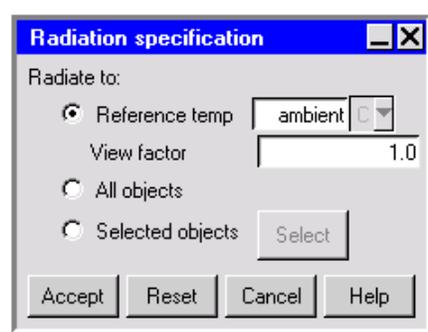

Figure 22.3.2: The Radiation specification Panel
- For the whole block, select the Radiation option in the Blocks panel. Click **Edit** to access the Radiation specification panel (Figure 22.3.2).
- For individual sides of the block, select the **Individual sides** option in the Blocks panel. Click **Edit** to open the Individual side specification panel. Select **Radiation properties** to access the radiation properties, which are the same as those shown in Figure 22.3.2.
- 2D source: Select the Radiation option in the Sources panel. Click Edit to access the Radiation specification panel (Figure 22.3.2).
- Person: Select the Radiation option in the Person panel. Click Edit to access the Radiation specification panel (Figure 22.3.2).
- Wall: Select the Inner surface radiation option in the Walls panel and click Edit to access the Radiation specification panel (Figure 22.3.2).
- Partition: Select the Low side or High side option under Side specification in the Partitions panel and click Edit to open the Low (or High) side surface properties panel. Select Radiation to access the radiation properties, which are the same as those shown in Figure 22.3.2.